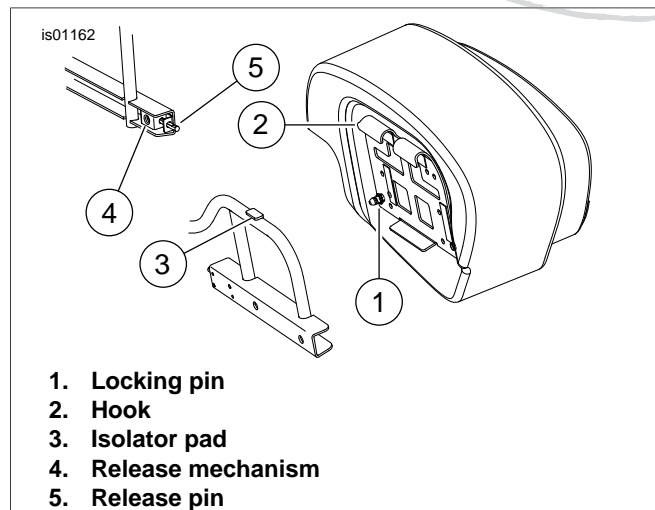

Figure 1. Saddlebag Mounting Hardware
1. See Figure 1. Prior to attaching saddlebags, ensure that the locking pin (1) is tightened to 5.6 Nm (50 in-lbs).
2. Hang hooks (2) on saddlebag over the release/attach assembly ensuring that the isolator pad (3) locates between the hooks.
See Figure 1. Press in on the release pin (5), tilt the bottom of the saddlebag outward, and lift it up and away.